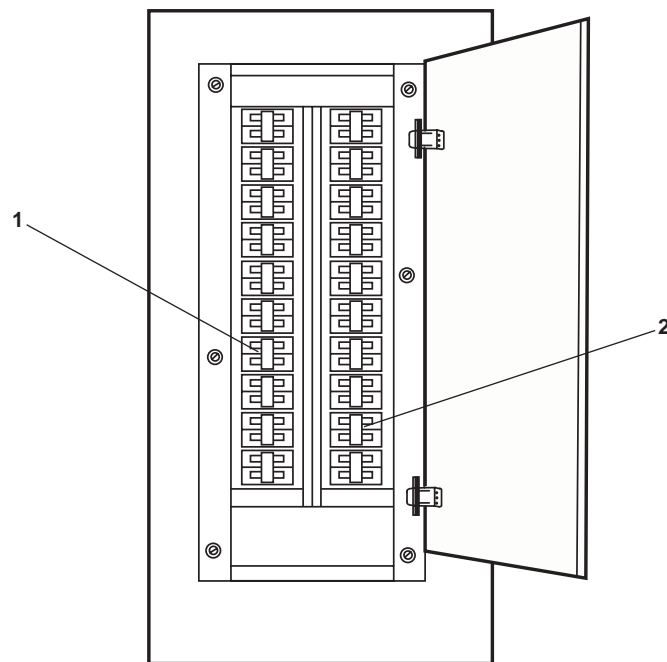

Figure 4. 120V Distribution Panel No. 4
- d. At the 120V distribution panel No. 4, set the ENGINEERING OPERATING STATION DRINKING FOUNTAIN. circuit breaker (figure 4, item 1) to ON.